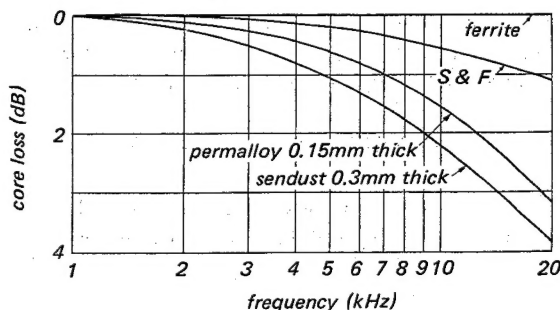

Fig. 8
b) These metallic magnetic materials such as the Sendust and permalloy apt to degrade in the high-frequency response due to the flow of the eddy current. In many cases, these materials are processed to thin sheet metal and laminated to reduce the degradation in the high-frequency response. Fig. 8 shows the core loss vs. frequency curves of the four kinds of head, i.e., laminated Sendust, laminated permalloy, S & F and ferrite heads.
As can be understood from Fig. 8, the laminated Sendust and laminated permalloy heads still have a large amount of core loss. The ferrite head has almost no loss on the contrary. The S & F head has a less core loss than the first two because most part of its magnetic circuit is made of ferrite and the frequency response is very good.